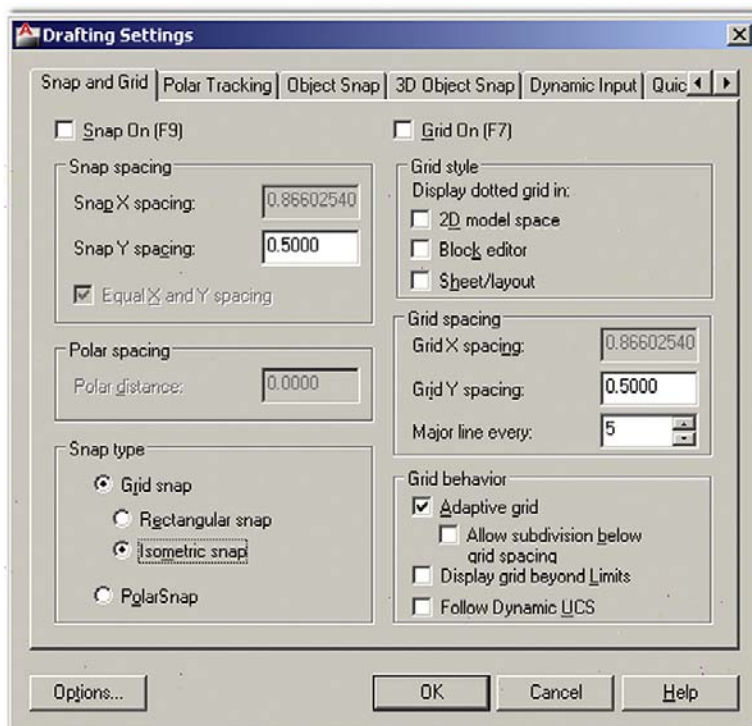

FIGURE 20.3
Step 2. From the cascading menu select: **Tools**→ **Drafting Settings...** and the dialog box seen in Figure 20.3 appears.
- Step 3.** Pick the Snap and Grid tab, go to Snap type (lower left), pick Isometric snap, and finally press on OK. Figure 20.3 is a screen shot of the Drafting Settings dialog box with Isometric snap selected.